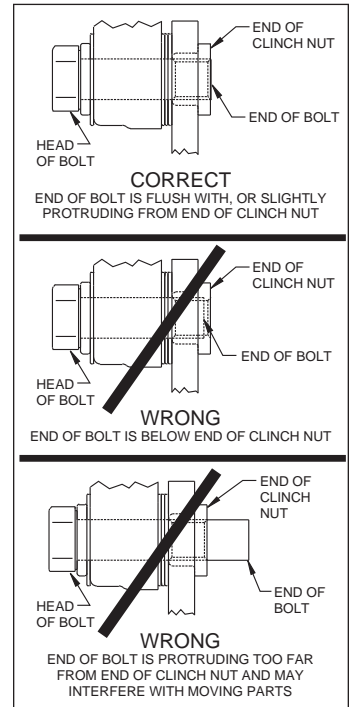

Figure 3. Clinch Nut Engagement Diagram
Assembly Instructions (numbers in parenthesis refer to the parts list and Figure 1 on the preceding pages): **CAUTION:** All mounting bolts must fully engage clinch nuts. Be sure to check that all bolts are either flush or protruding through flanged side of clinch nut after shimming, Figure 3.
- Screw dust cap (16) into hub (6), Photo 7. Friction created by the o-ring (15) on the dust cap keeps it from unscrewing. **NOTE:** The O.D. of the existing OEM spindle washer may be larger than the I.D. of the dust cap not allowing it to seat against the hub face. Therefore, use the spindle washer (14) supplied with the kit instead of the OEM washer.
- NOTE:** Please reference the caution statement at the beginning of the assembly instructions. Mount the caliper (17) onto the caliper mounting bracket (1) using bolts (20) and washers (19), as shown in Figure 1. Initially place two .035" thick shims (18) on each bolt between the caliper and the bracket, Photo 8. Temporarily tighten the mounting bolts and view the rotor (10) through the top opening of the caliper. The rotor should be centered in the caliper, Photo 9. If not, adjust by adding or subtracting shims between the bracket and the caliper. Always use the same amount of shims on each of the two mounting bolts. **NOTE:** The end of each bolt must be flush with or slightly protruding from the head of the clinch nut, as shown in Figure 3. If necessary place spare shims between washer (18) and caliper mounting ear to achieve the proper clinch nut engagement. Later, after the calipers are bled, the caliper mounts bolts will be secured using red *Loctite*® 271.